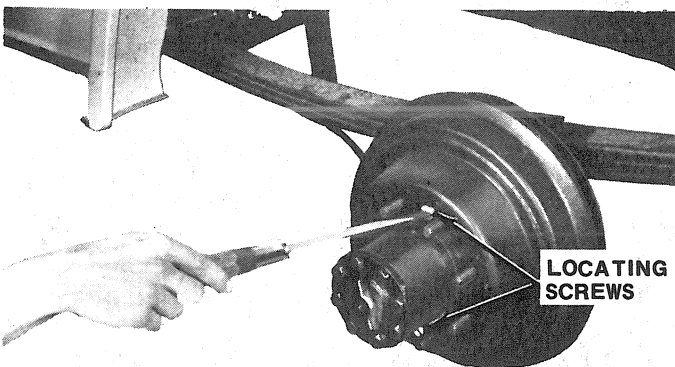

Fig. 2G-28 Brakedrum Locating Screw Removal—Model 60 Axle
(1) Raise vehicle.
(2) Remove rear wheels and drums.
(3) Release parking brake and loosen locknuts at parking brake equalizer to relieve cable tension before removing rear drums.
(4) On Truck models with Model 60 full-floating rear axle, remove two screws that locate rear drums on hubs (fig. 2G-28).
(5) Remove primary brakeshoe return spring (fig. 2G-26).
(6) Remove automatic adjuster actuating spring and secondary brakeshoe return spring using Spring Remover Tool J-8057.
(7) Remove holddown springs and remove brakeshoes.
(8) Disengage parking brake cable from parking brake lever on secondary brakeshoe.